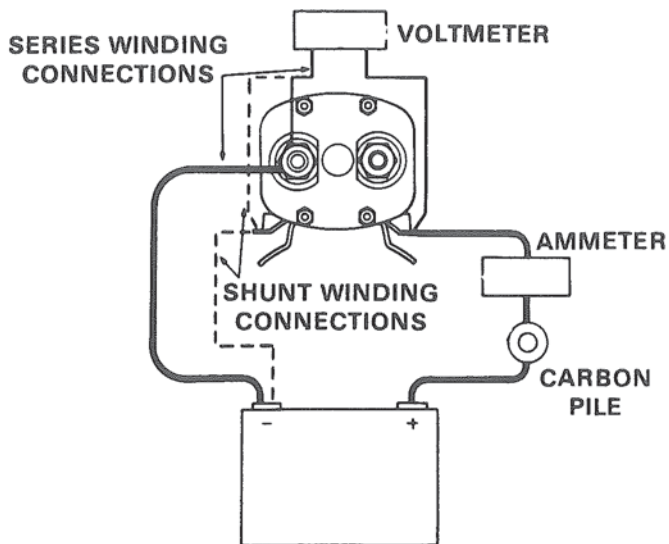

Figure 12. Solenoid Test.
3. Check current draw of solenoid windings. Figure 12. The series winding is connected from small terminal on right side of solenoid to motor terminal stud connector.